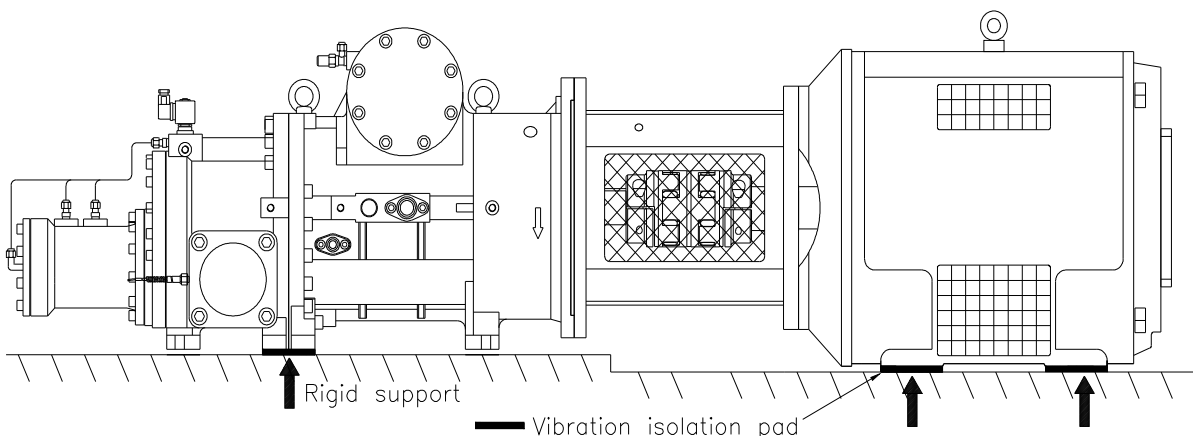

Figure 4.5 Connection with coupling housing
- c. Use vibration isolation pad below compressor and motor. (Refer to Figure 4.5)
The suction strainer is located on the top of compressor as shown in the Figure 4.5. Because low temperature gas will pass the suction port during operation, insulation foam is always recommended to be used on the outer surface of suction area to avoid energy loss and frozen ice on the compressor. For a new system, suction strainer should be cleaned after the first commissioning and be checked at each regular maintenance period. The new compressor normally has higher suction volume which causes higher gas speed in the old piping system. Debris might come back to the compressor during the operation. Therefore, review suction strainer after system commissioning is necessary.